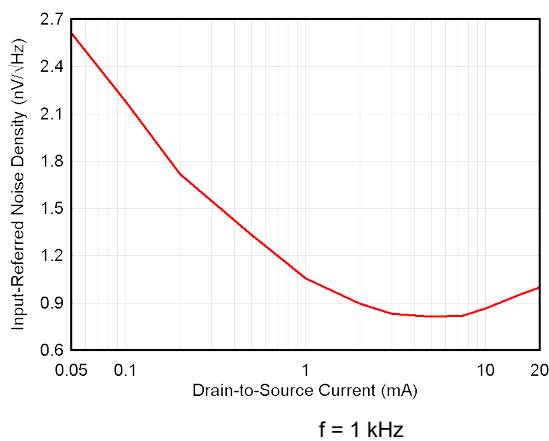

图 6-11. Input-Referred Noise Spectral Density vs Drain-to-Source Current
- The JFE150 bias current is set by selecting the desired bias current and noise tradeoff (see 图 6-11). The input-referred noise is dominated by the JFE150 bias current and gain. To set the bias current point, adjust the source resistance according to 图 9-3.